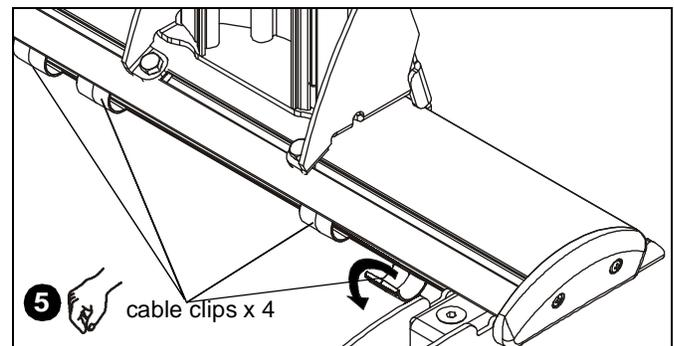

Figure 26
5. Open cable clips along bottom edge of wall bracket. (See Figure 26)